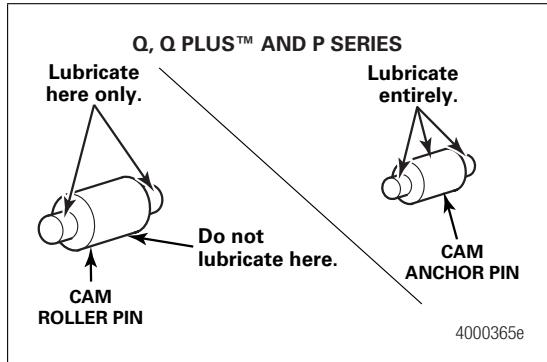

Figure 5.13
1. Use Meritor specification O-617-A or O-617-B grease to lubricate the brake shoe roller pin and anchor pin. Figure 5.13.
- Lubricate the camshaft roller pin and anchor pin with Meritor specification O-617-A or O-617-B grease. Figure 5.13.